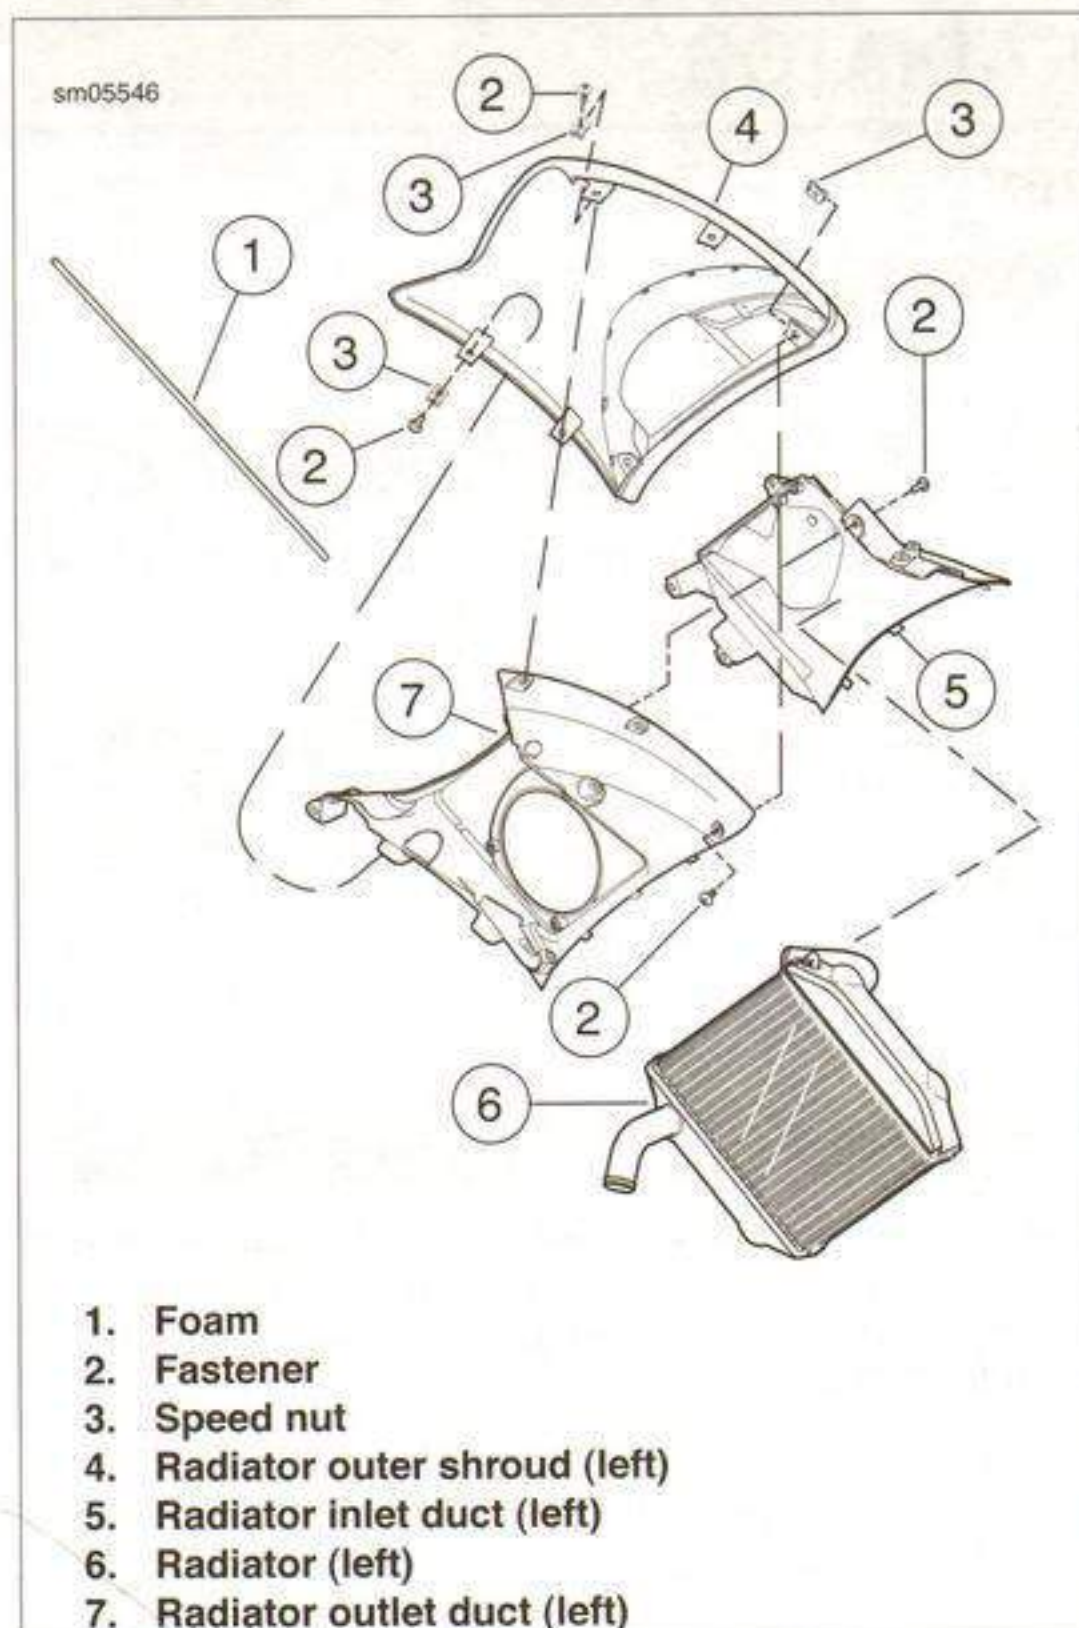

Figure 5-25. Left Side Radiator Components
4. See Figure 5-25. Remove six fasteners (2) from left side radiator outer shroud (4) and remove shroud from motorcycle. Leave speed nuts (3) in place on outer shroud.
1. See Figure 5-25. Seat radiator (6) in pocket of radiator outlet duct (7) and enclose radiator with radiator inlet duct (5).